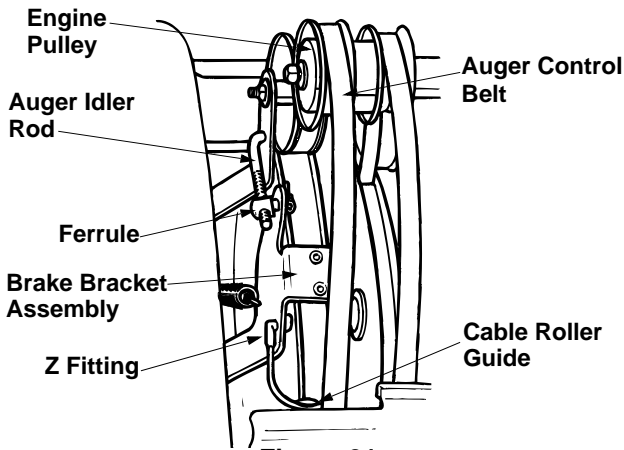

Figure 21
- Remove the hairpin clip and flat washer from the ferrule in order to disconnect the auger idler rod from the brake bracket assembly. See Figure 21.
- Slip the auger control belt (the front belt) off the engine pulley. See Figure 21.
- Attach the “Z” fitting of the cable into the brake bracket assembly. Refer to Figure 21.